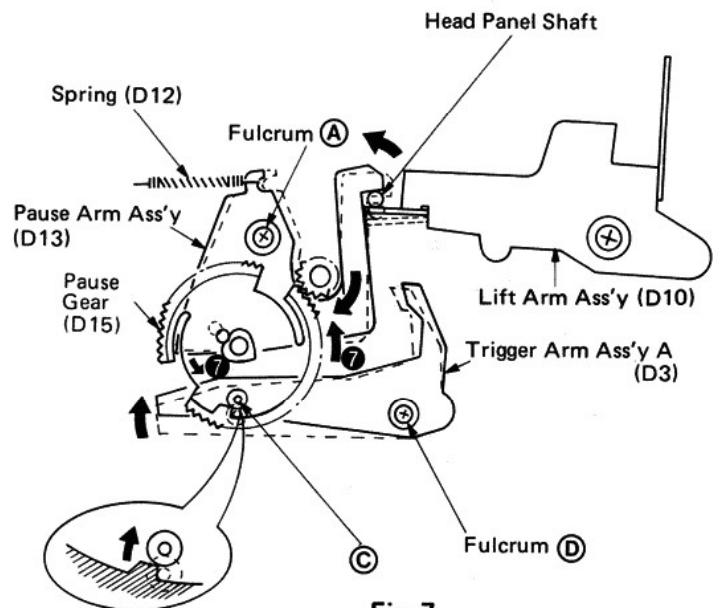

Fig. 7
- 1 When the PAUSE button is pressed, the trigger arm assembly A (D3) begins to turn around the fulcrum (D) and is disengaged at point (C). The pause gear (D15) is rotated slightly in direction ⑦ by the force of spring (D12). (Fig. 7)